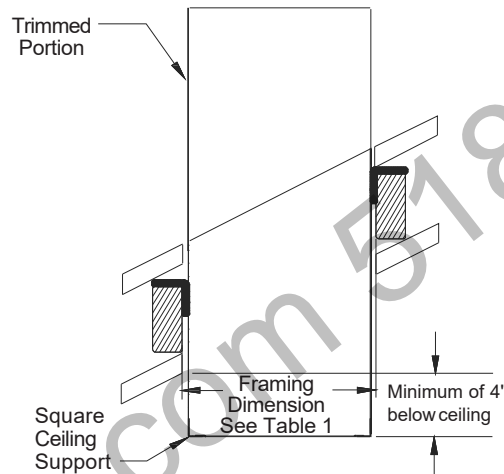

FIGURE 9b - Cross-section view Bracket Locations
1. Cut and frame (on all 4 sides) the holes in the floor / ceiling and roof where the chimney will pass. All openings should be square (all four sides), plumb and in perfect alignment with each other. **NOTE:** For sloping roofs and/or ceilings the framed opening will be rectangular. Insure that the framing dimension is measured in the horizontal plane (see Figure 9b). Refer to Table 1 for the required framing dimensions and Table 2 for the maximum supporting capacity.